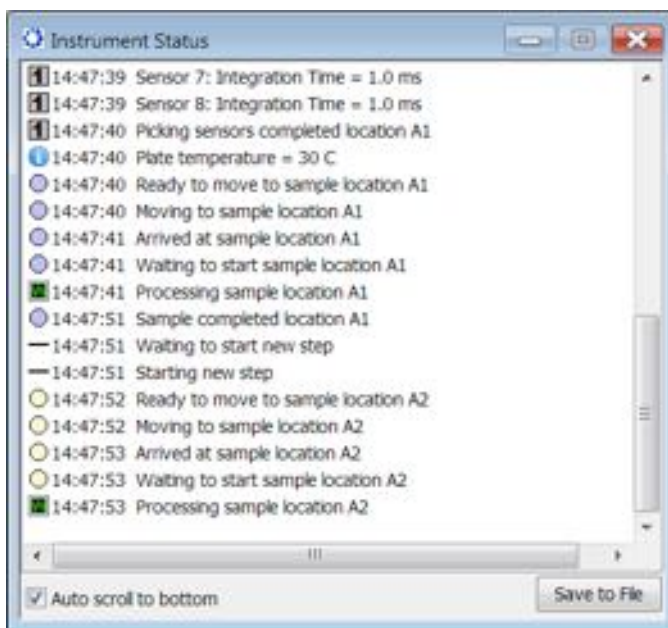

Figure 8-56: Instrument Status Log
4. Optional: Click **View > Instrument Status** to view the log file (see Figure 8-56).